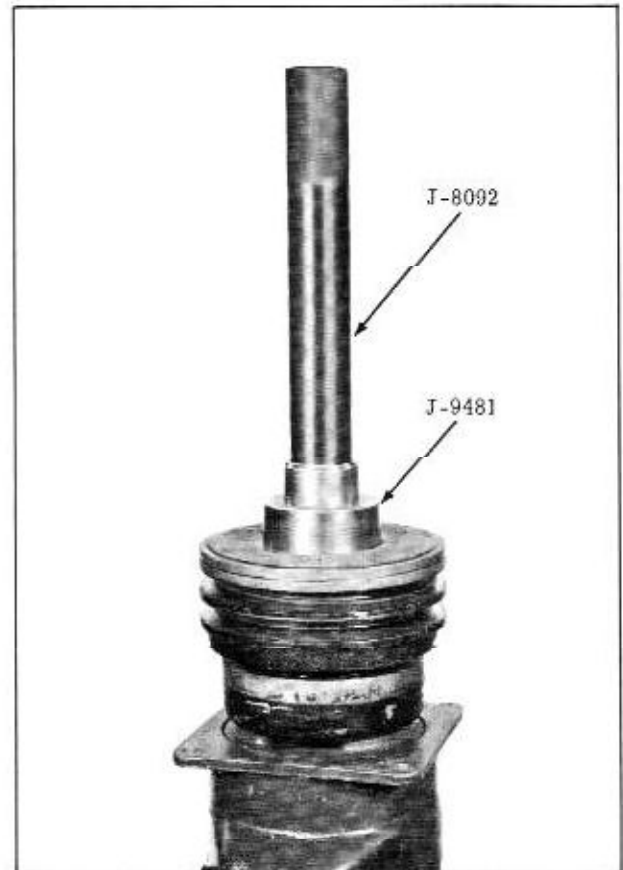

Fig. 14-27 Installing Pulley and Drive Plate on Compressor
1. Install the pulley and bearing assembly on the end of the compressor, with Tool J-9481, (Fig. 14-27) The pulley should rotate freely.